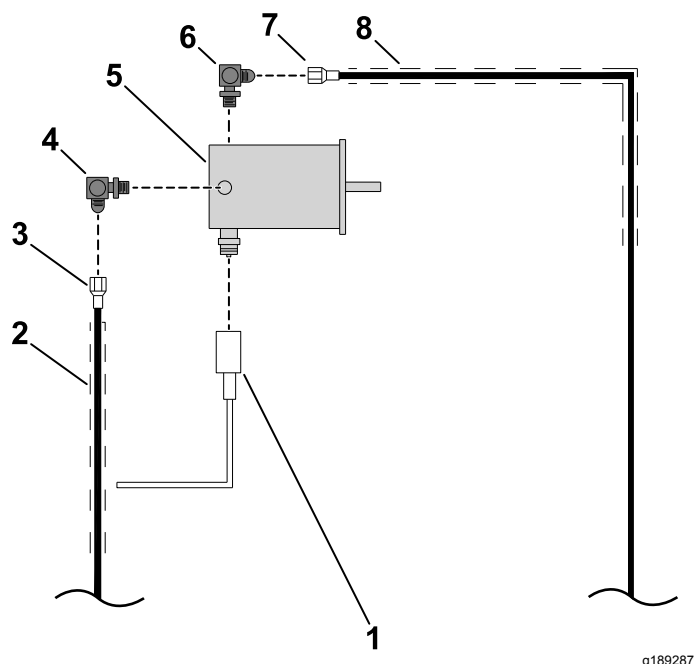

Figure 18
3. Install the hose cover 147 cm (58 inches) to the hydraulic hose (Part No. 01-312-5610) as shown in Figure 18.
4. Install the hose cover 147 cm (58 inches) to the hydraulic hose A—254 cm (100 inches, 8 FJ to 6 MP) as shown in Figure 18.
5. Install one end of the 90° fitting (5/8 x 1/2 inch) to the hydraulic motor (Part No. 92-4240) and the other end to the hydraulic hose (Part No. 01-312-5610) as shown in Figure 18.
6. Install one end of the Elbow fitting (Part No. 01-201-4210) to the hydraulic motor (Part No. 92-4240) and the other end to the hydraulic hose 254 cm (100 inches, 8 FJ to 6 MP) as shown in Figure 18.
7. Connect the hydraulic hose included with the core harvester to the IN port on the conveyor motor (Figure 18).